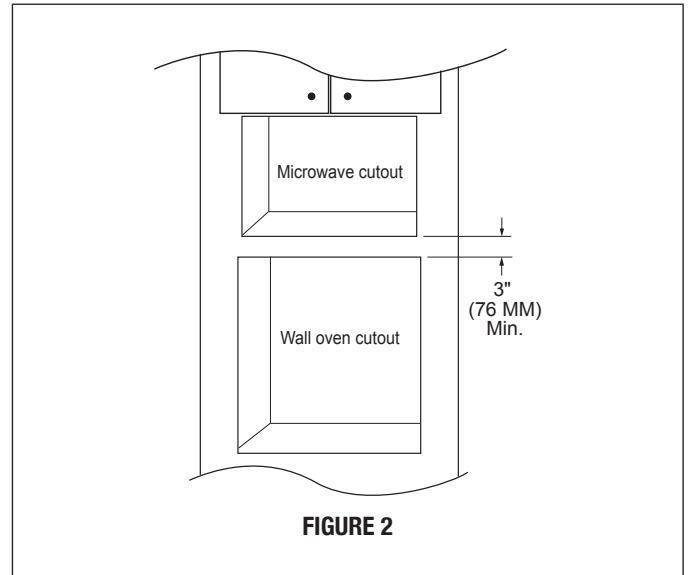

FIGURE 2
- A. Insert the edge of DUCT (B) into the hold lip of DUCT (C). Secure together by using a SCREW (I) provided in the kit. See Figure 2.
- Please allow minimum 3" (76 mm) wood gap between the microwave oven cutout and the appliance cutout below the microwave oven. See Figure 2.